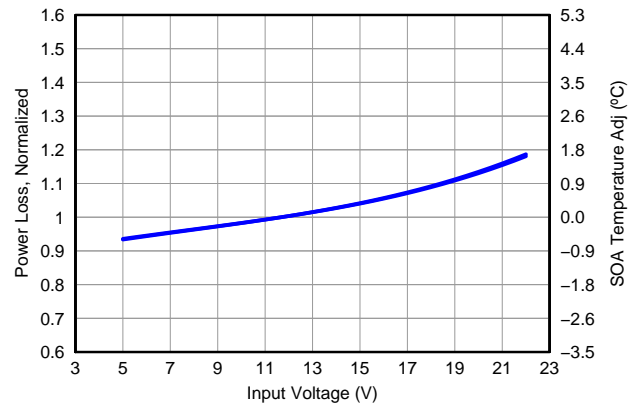

Figure 7. Normalized Power Loss vs Input Voltage
- Normalized power loss for input voltage ≈ 0.94 (Figure 7)
- SOA adjustment for input voltage $\approx -0.7^\circ\text{C}$ (Figure 7)